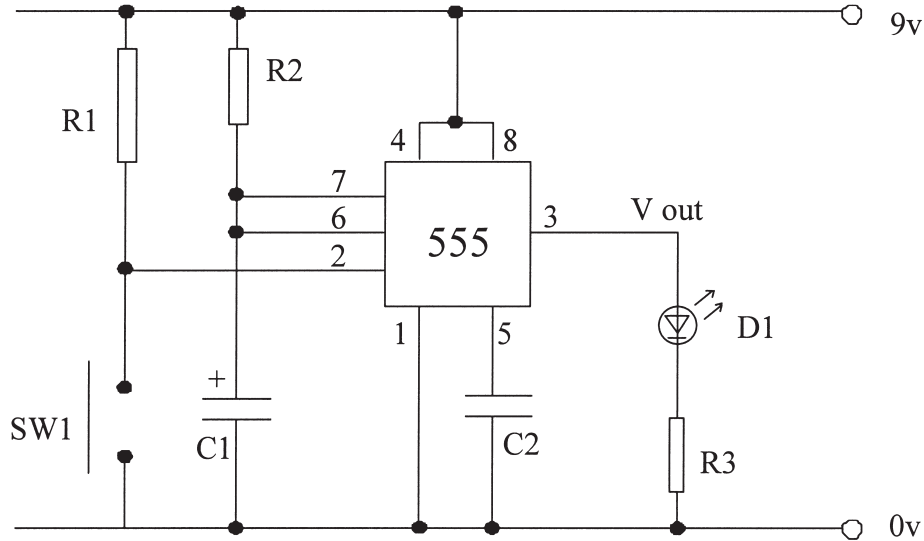

Figure 2
B2 A student has decided to use the monostable circuit shown in **Figure 2** as the timing element in a game being designed. The circuit is based around a 555 timer integrated circuit (IC).
- (a) Use the information given on the circuit diagram to help you to complete the table in **Figure 2** which describes the pins used for the connection of the 555 timer Integrated Circuit (IC).